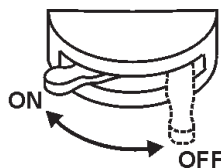

Figure 37. Battery ON/OFF Switch (ON)
1. Place the battery ON/OFF switch (Figure 37) in the **ON** position.